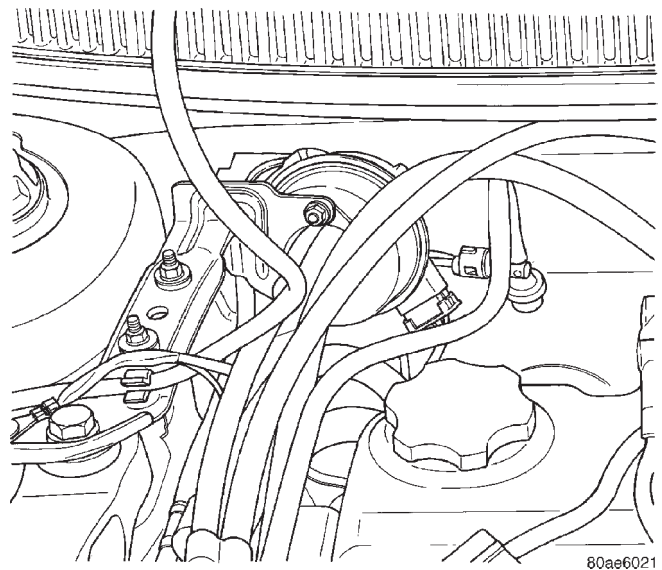

Fig. 2 Speed Control Servo
- (1) Disconnect electrical connector from servo (Fig. 2).
- (2) Disconnect vacuum hose from servo
- (3) Remove 2 nuts retaining cable to servo.
- (4) Remove retaining clip pin holding cable to servo.